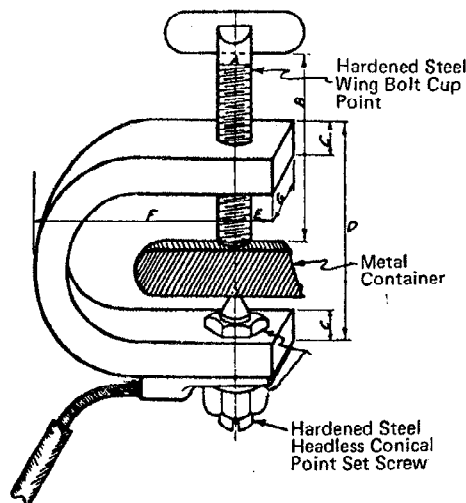

Figure 1 Typical Pressure-type Ground Clamp.
**3-3.1.5** Connections may be made with pressure-type ground clamps, brazing, welding, battery-type clamps, or magnetic or other special clamps that provide metal-to-metal contact. (See Figures 1, 2, and 4.)